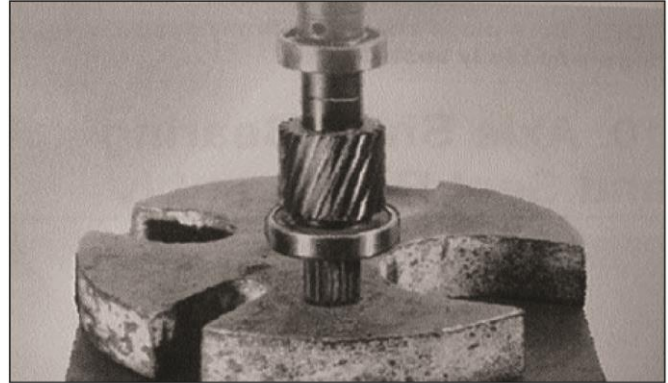

Figure 7-21
1. Prior to installing, wipe new O-rings with SAE 30 weight oil. Install one O-ring (14) into outer input shaft (12) bearing bore. Install two O-rings (14) into intermediate shaft (9) bearing bores and two O-rings (10) onto intermediate shaft and gear assembly.
2. Press inner and outer bearings (13, 15) on input shaft (12) until seated against bearing shoulders. See Figure 7-21.
3. Install new O-ring (14) into bearing bore of input shaft (12).